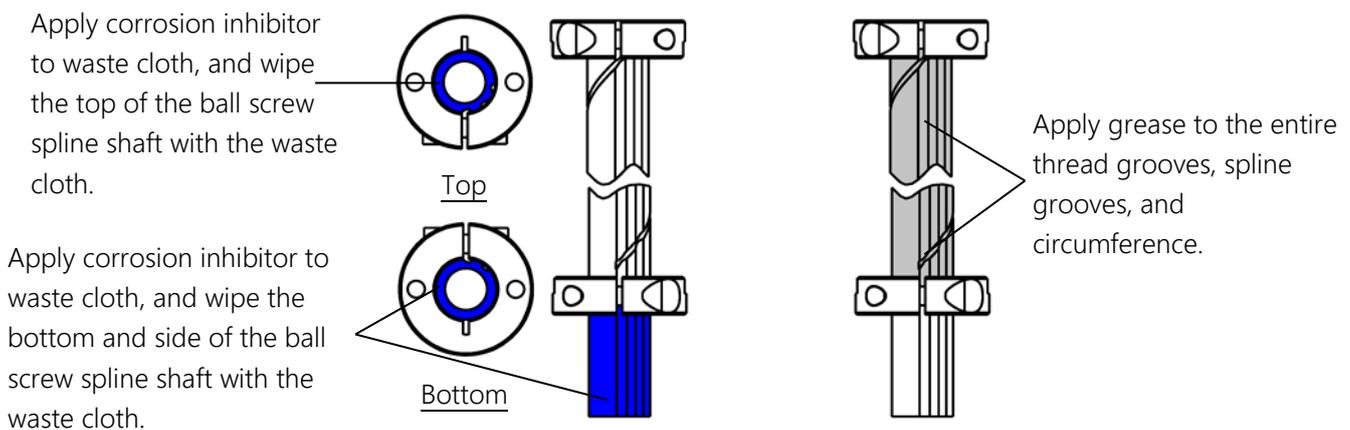

Fig. 7.36 Parts of the ball screw spline unit to which corrosion inhibitor or grease is applied
- 5) Apply grease, with a brush, etc., to the visible part of the shaft. Apply it so that shaft grooves are filled. For the part to apply grease to, see Fig. 7.36.
- 7) Use a brush or the like to apply grease to the visible part of the shaft on the top of the ball screw nut. Apply it so that shaft grooves are filled. For the part to apply grease to, see Fig. 7.36.